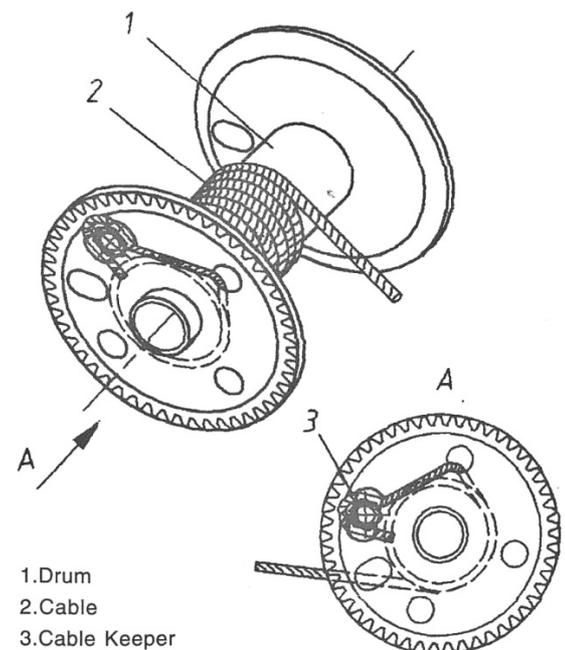

Fig. 2: H-1100A Winch Cable Attachment
3. Thread cable through one holes on the drum plate then wrap the drum, clamp the cable with cable keeper (see Fig. 2), making sure that the bolt head of cable keeper should be at the inside of winch drum. In case of hook application, attach the other end of cable to suitable hook having safety catch, clamp the cable with suitable clip. The breaking strength of the hook must be at least 1.5 times of the breaking strength of the cable.